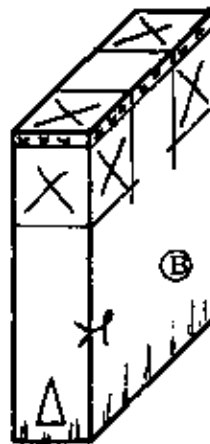

Fig. 4
– Set the marking gauge to the width of the tenon and mark the lines around piece B at the width. Mark the waste with small crosses (Fig. 4).